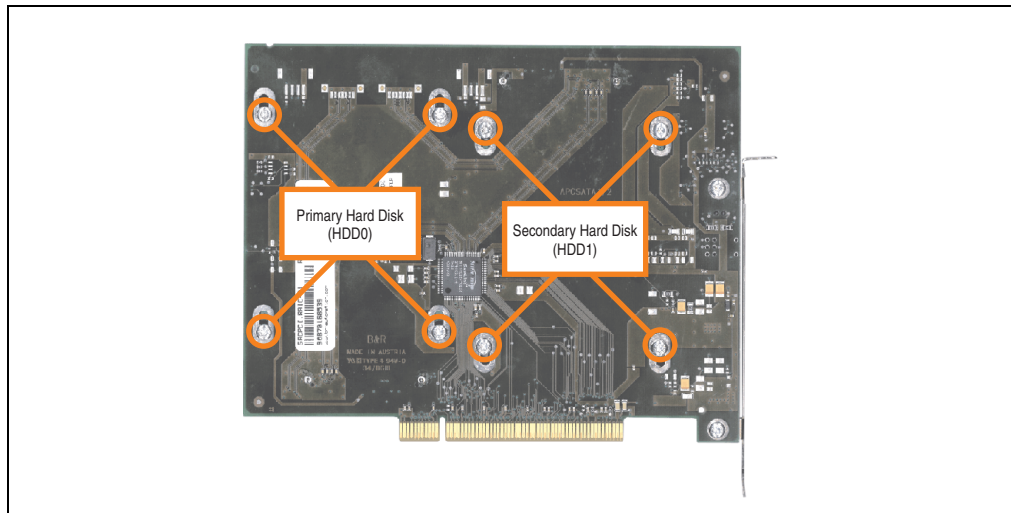

Figure 243: Screw assignment on the back side of the SATA RAID controller
- Loosen the 4 appropriate mounting screws (M3x5) - see Figure 243 "Screw assignment on the back side of the SATA RAID controller" on page 430.